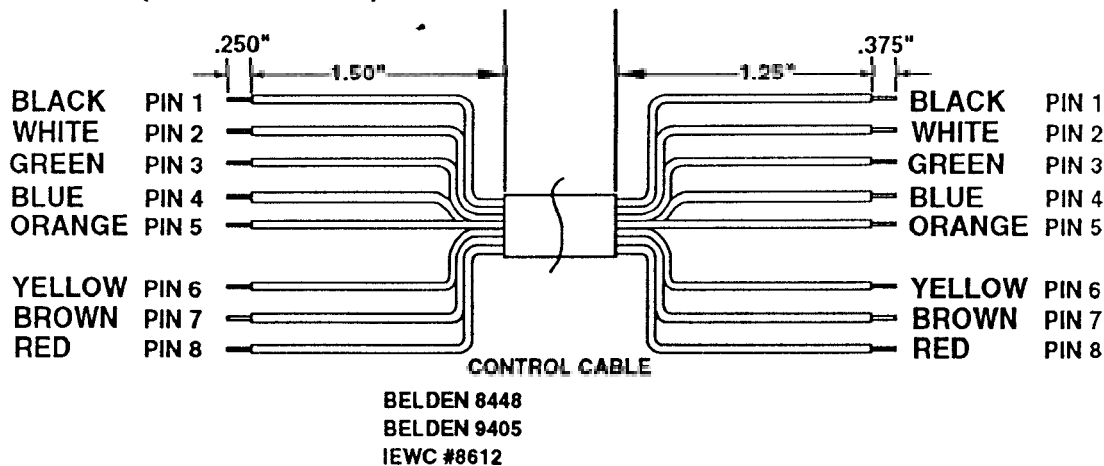

Figure 6 Control Cable Connector Attachments
2. Assemble the rotator cable as shown in Figure 6, or purchase a pre-assembled cable.